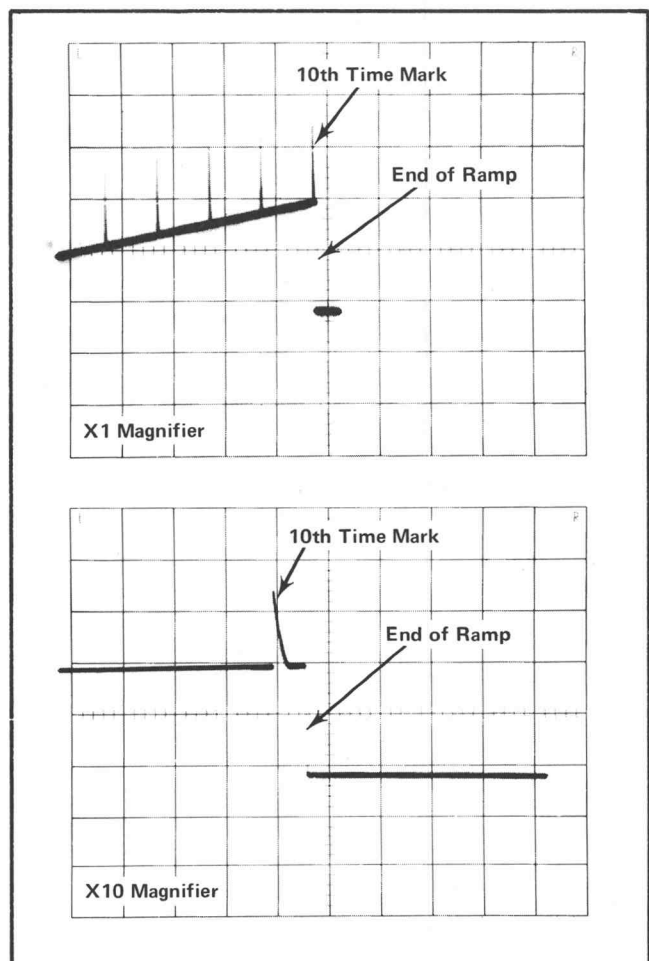

Fig. 5-5. Typical display of ramp and time marks for ADJUST steps 4 and 6.
**4. Adjust 1 ms, X1 Ramp Duration (R101) ①**
- d. Adjust Time Base Trigger/Level and Position controls to give a stable display similar to that in Fig. 5-5.
d. Display ramp and time marks as shown in Fig. 5-5.